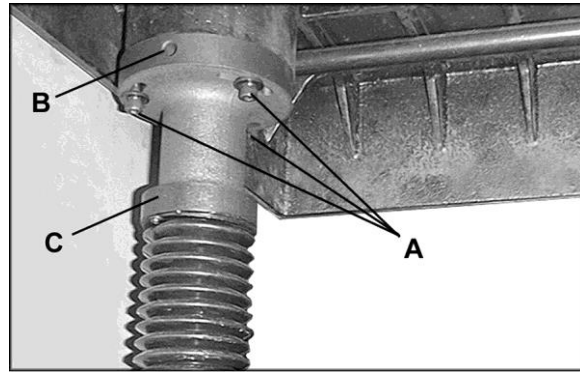

Figure 15
(A, Figure 15) beneath the table.
- Place a rod-like object (such as a hex wrench) into one of the open holes (B, Figure 15) and turn the shaft (C, Figure 15) to raise the table until the gauge reads the proper measurement. Or, the same effect can be achieved by lowering the other side of the table.
- Re-tighten the socket head cap screws (A, Figure 15).